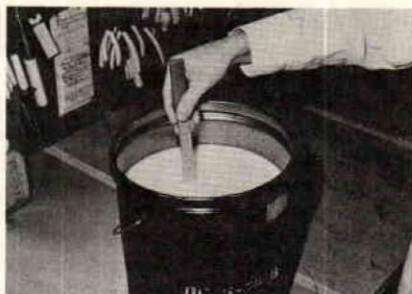

Figure 1
P.V.C. gel comes from the manufacturer with thick settlements at the bottom of the can. The gel must be mixed until the viscosity is uniform. Fig. 1.